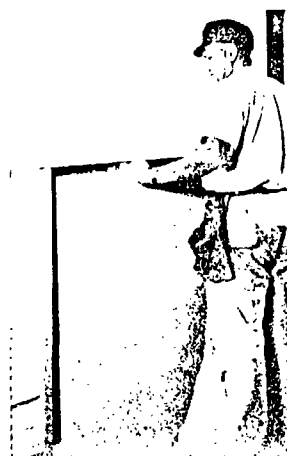

FIG. 14
15. Tapering End Joints—In lieu of using strips of wallboard to maintain alignment as described in Figure 14, the end joints may be tapered by following the procedure pictured on the left. The strips are pieces of $\frac{3}{4}$ " x $1\frac{1}{2}$ " oak flooring. The horizontal strips are first loosely nailed, with double headed nails, to the underlying supports. The vertical piece, which is approximately 54" long, is then centered over the joint and underneath the horizontal strips as shown. Ceiling joints are tapered in the same manner.